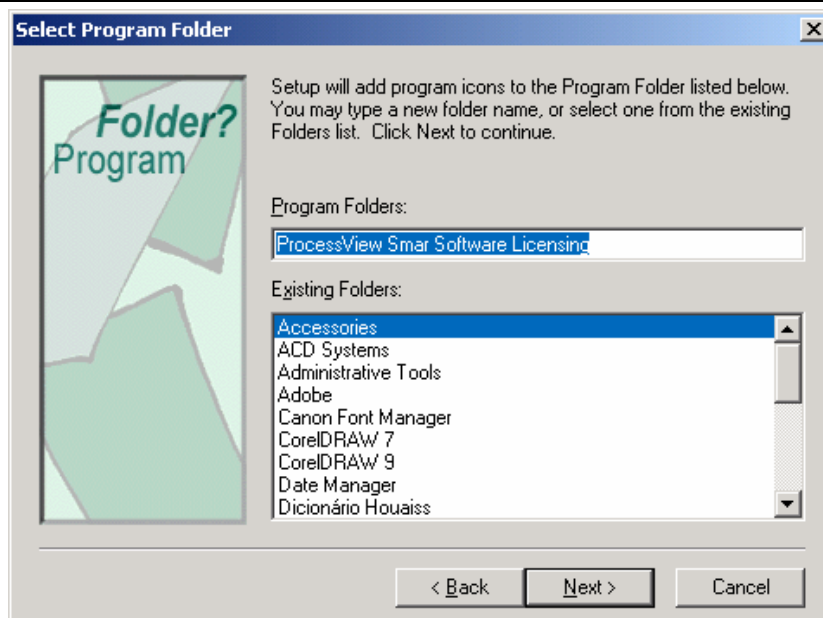

Figure 3.7. Select Program Folder
12. The setup will also create a program folder and copy all the shortcuts related to the License Utility into that program folder. The default program folder is **Smar Software Licensing**. You can specify a different folder if you want, as shown in **Figure 3.7**. Click **Next** to continue. The setup will start copying files to your computer and will display the status associated with the memory, disk space, and percentage of information copied.